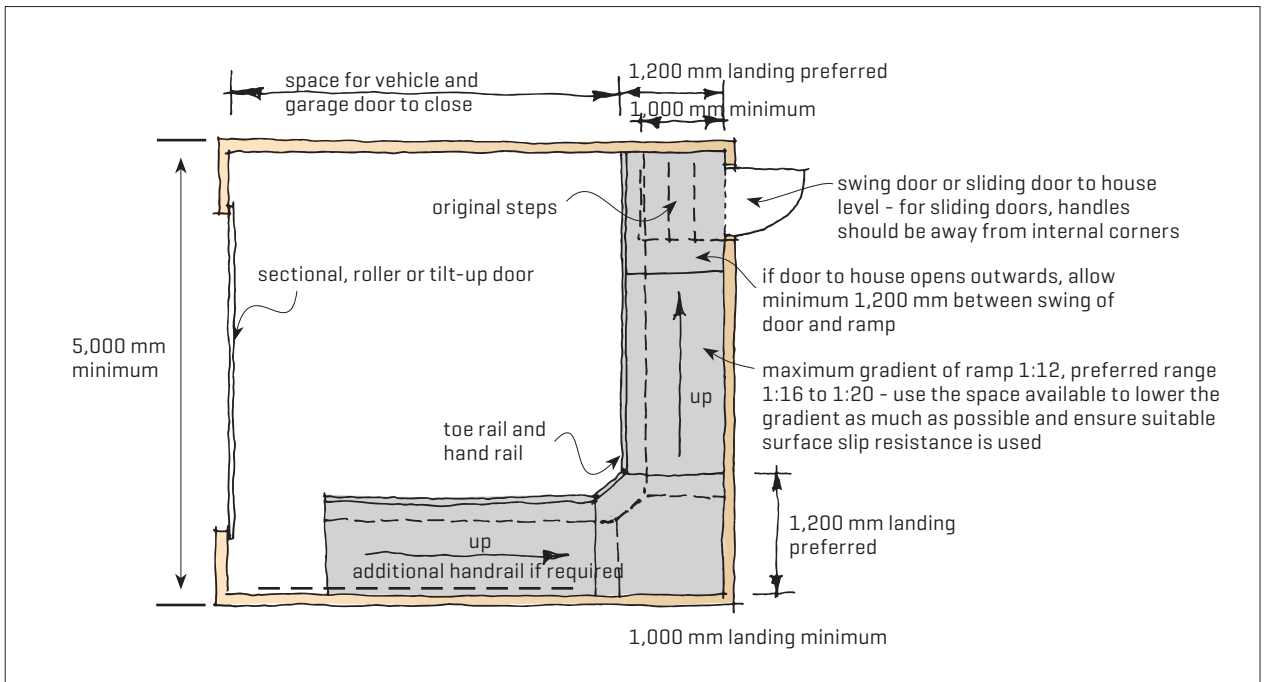

Figure 4. Installing a ramp in an existing garage to allow internal access where there is a difference in level between the garage and the house.
4.0.7 Where there is a significant difference in level between the garage and the adjacent house, it may be possible to install a ramp inside an existing garage to allow internal access if there is enough space [Figure 4].